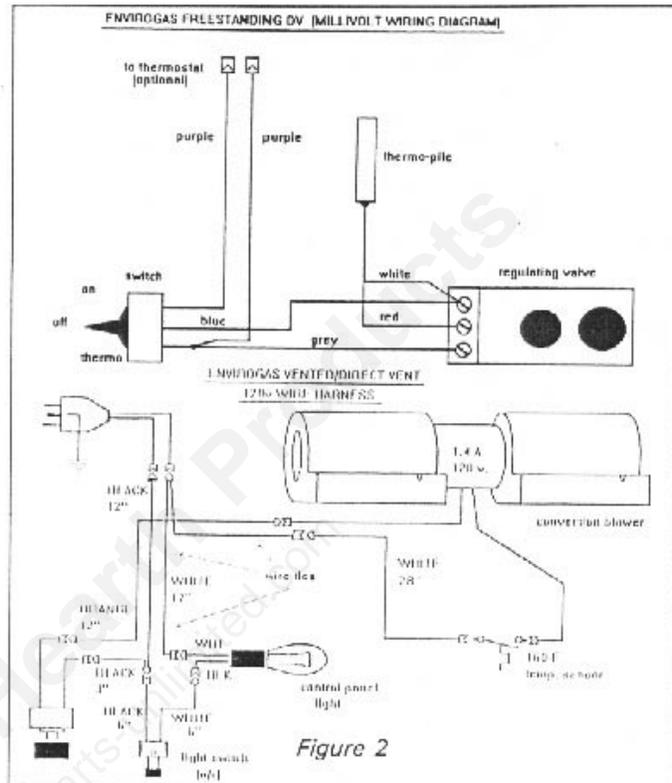

Figure 2
- 5) Make all electrical connections as per wiring diagram shown in figure 2.